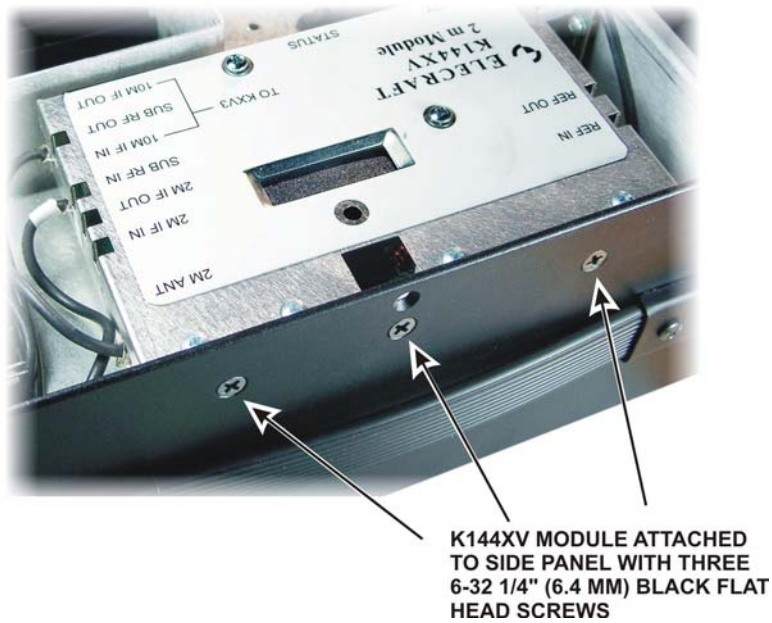

Figure 2. Freeing the K144XV Module.
2. Remove the three 6-32 screws that secure the K144XV module to the left side panel as shown in Figure 2.